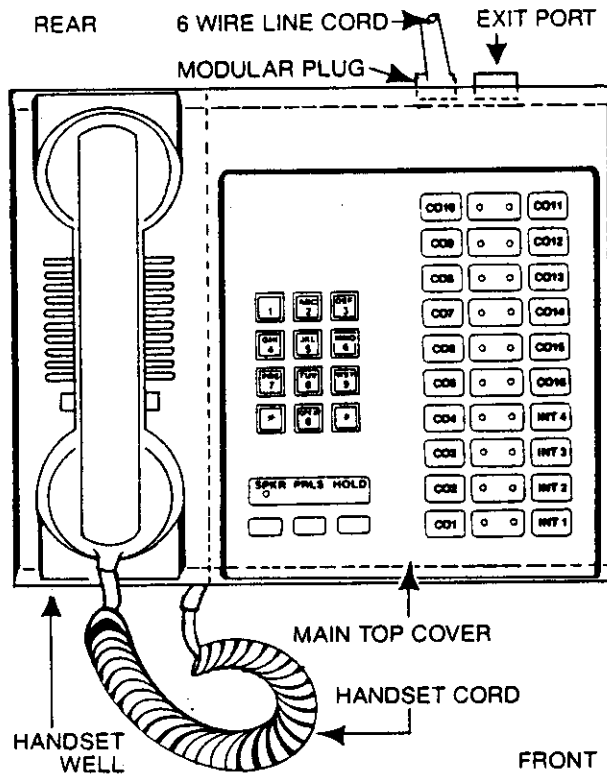

FIGURE 2 — EKT PHYSICAL LAYOUT
2.1 To install an EHIU PCB, the EKT handset well and the main top cover, the EKT PCB and the metal shielding plate must be removed as follows (see Figures 2 and 3):
2.1.1 Disconnect the modular line cord plug from the rear of the EKT. See Figure 2.